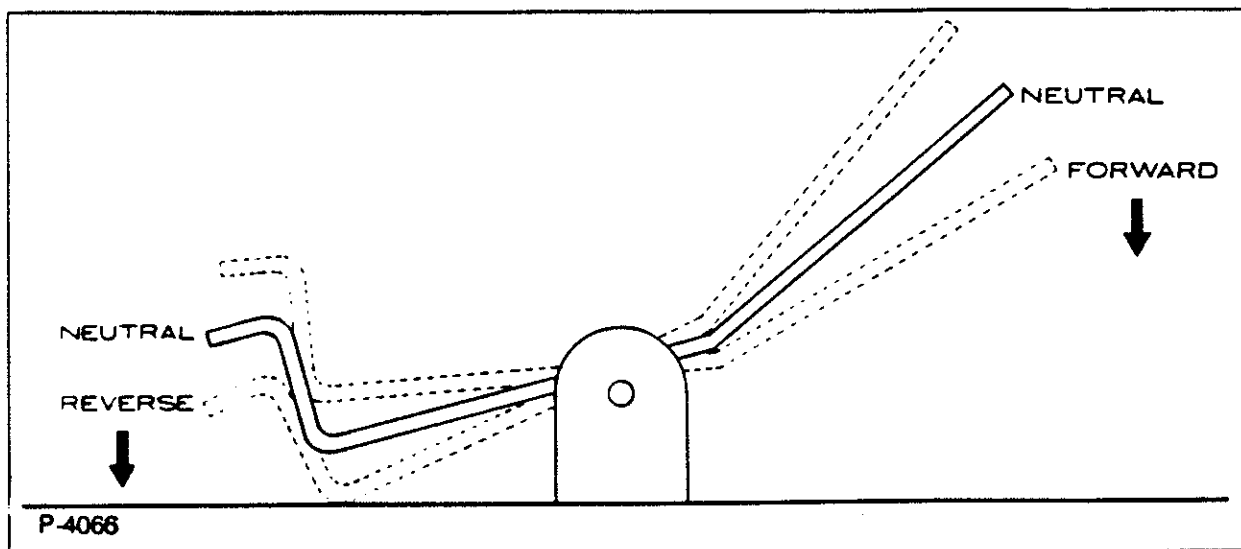

Figure 11
1. Put foot pressure on the upper portion of the pedal. The machine will move forward. See Figure 11.